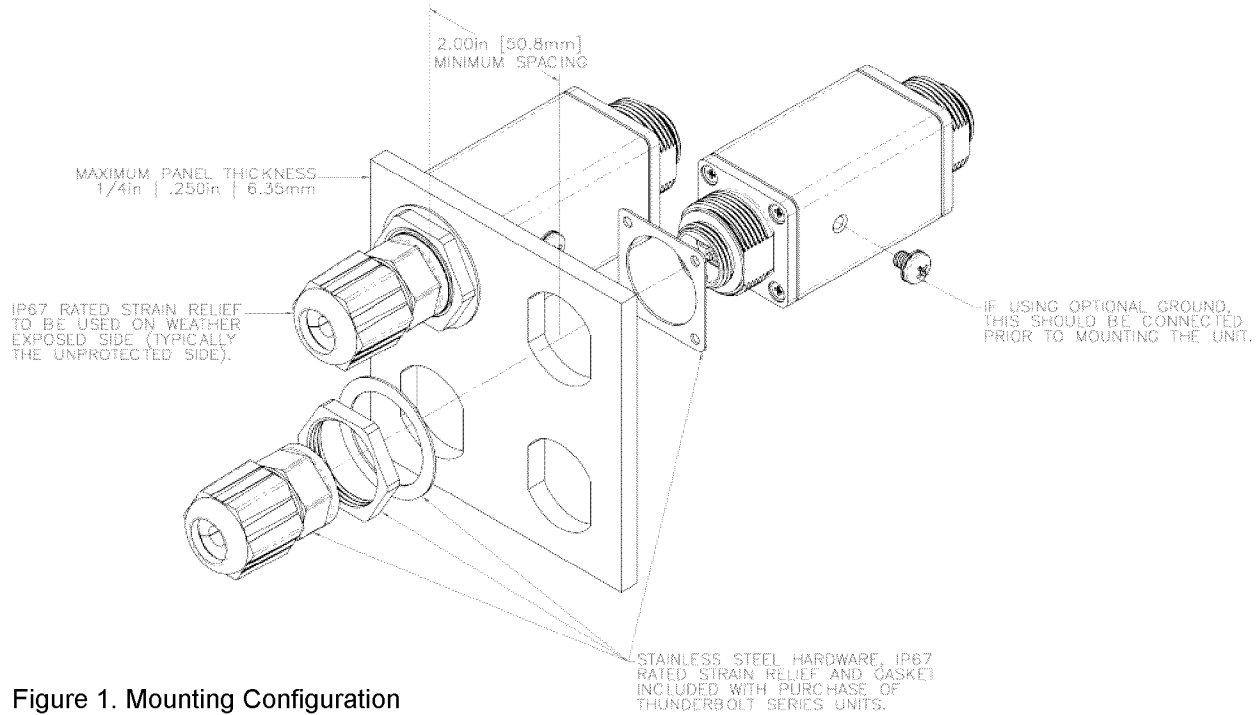
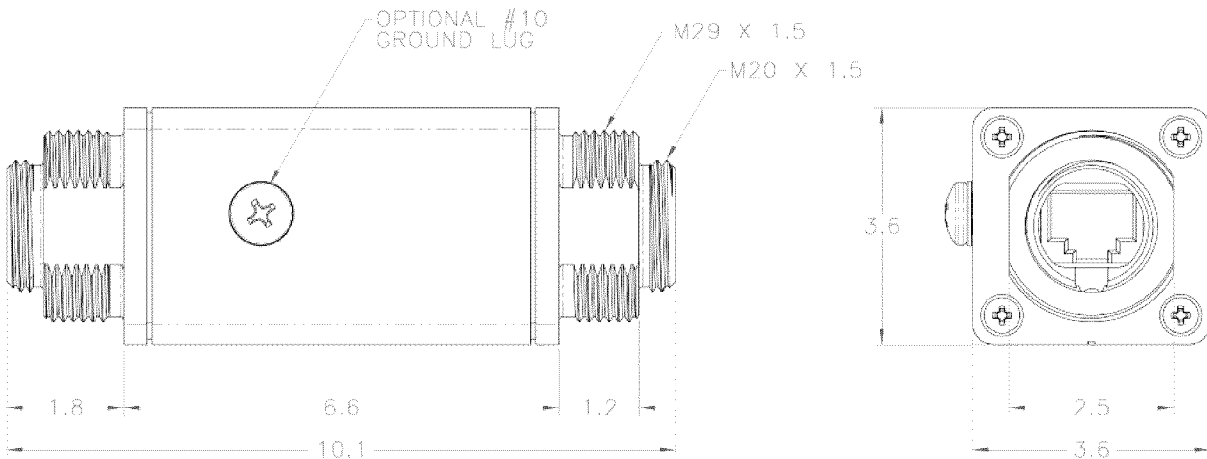

Figure 1. Mounting Configuration
Figure 2. Mechanical outline (cm)
The Thunderbolt series provides a #10 ground screw as well as a molded RJ-45 connector shroud with cable gland and mounting hardware as depicted in Figure 1.
**5. INSTALLATION:** The Thunderbolt is intended to be installed onto any grounded metal frame bulk head or bracket. The unit can be used with the thunder kit weather gasket or EMI gasket to achieve up to 60 dB isolation. Refer to figure 1 for mechanical dimensions and figure 2 for hardware accessories.
- 5.1. Install the Thunderbolt protector into the prescribed area. The Thunderbolt mounts through a 29mm hole in the bulkhead or enclosure. Be sure to orient the device with the “unprotected” side oriented out to the exposed wire direction (see Figure 1).
- 5.2. Attach an optional grounding conductor, 10awg minimum (not provided) between the ground lug on the Thunderbolt and the nearest Master Ground Bar connection. The grounding wires should be as short as possible (see Figure 2).